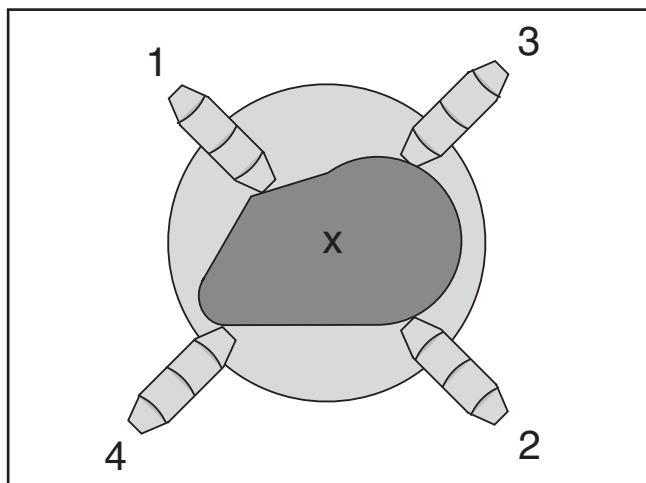

Figure 34. Tightening sequence for the 4-jaw chuck.
5. After adjusting the first jaw, continue tightening in opposing sequence, as shown in **Figure 34**, until the workpiece is firmly secure in the desired position.